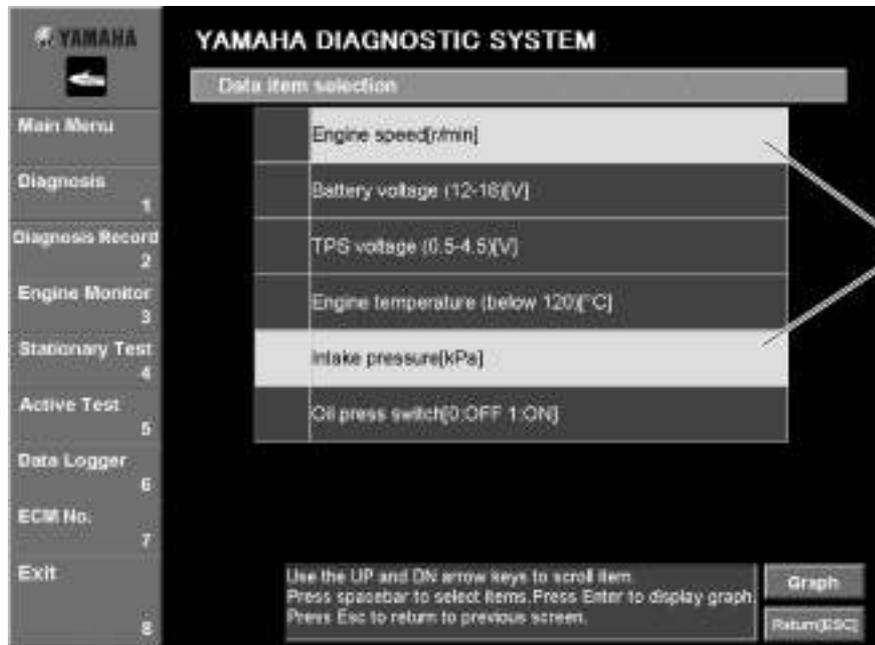
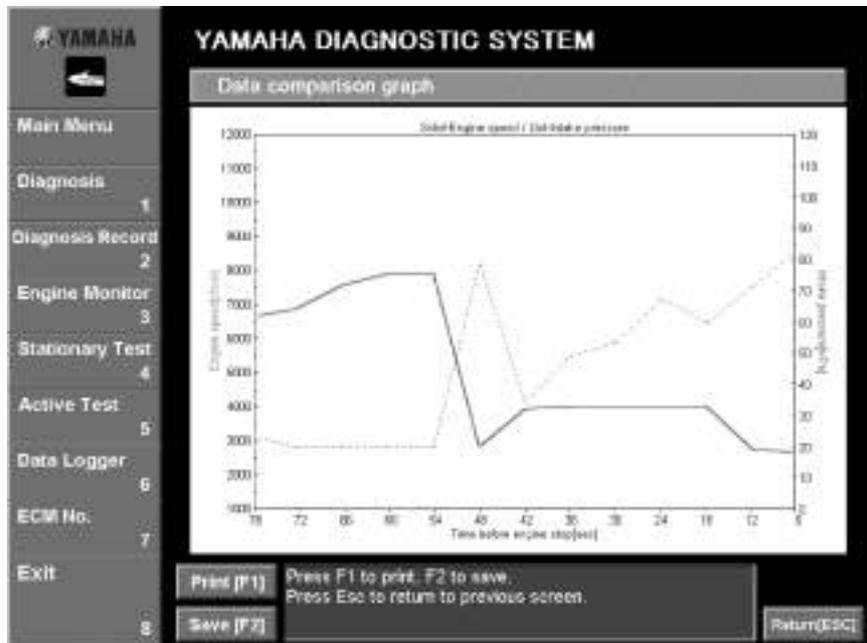

Fig. 60
Fig. 61
1. Select the desired items by either clicking them or pressing the up or down arrow keys on your keyboard, then pressing the space bar. (Fig. 60)
2. Click the **Graph** button or press the Enter key on your keyboard. (Fig. 60) The **Data comparison** window is displayed. (See fig. 61.)
A line graph appears with the items selected in the **Data display item selection** window on the vertical axes and the **Time before engine stop** on the horizontal axis. (Fig. 61)